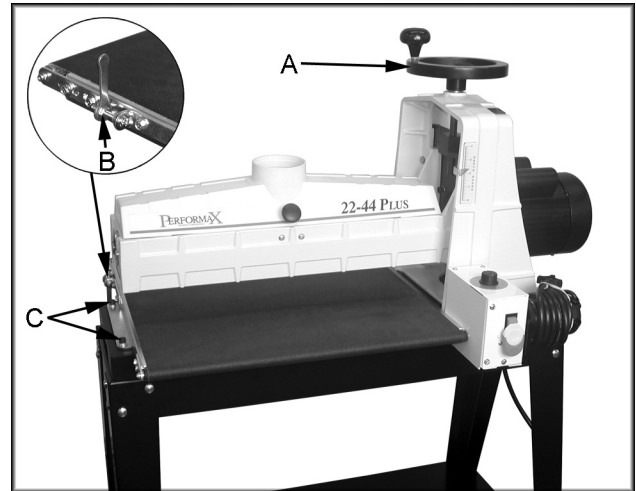

Fig. 16
2. Raise the drum to its highest position using the handwheel (Fig. 16, Item A).
3. Remove the belt tension by loosening the take-up nuts (Fig. 16, Item B).
4. Unscrew the four socket head cap screws (Fig. 16, Item C) that attach the conveyor to the bed and remove the conveyor.